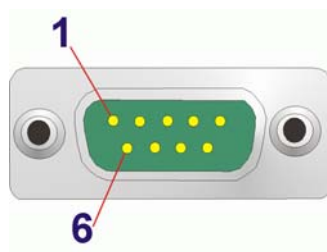

Figure 3-21: Serial Port Pinout Locations
- CN Pinouts:** See **Table 3-23** and **Figure 3-21**